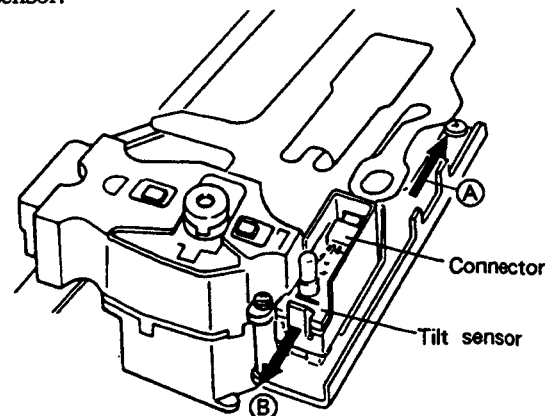

Fig. 7-11
7.7 REMOVING THE TILT SENSOR (Fig. 7-11)
- ① Remove the connector (arrow (A)) of the flexible board and release the claw (arrow (B)) to remove the tilt sensor.